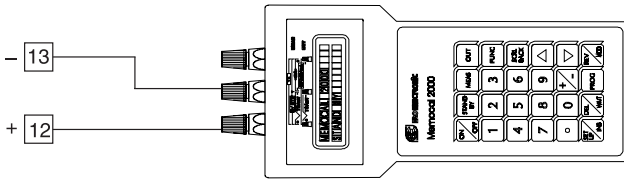

Fig.6
- Connect the instrument under test to the calibrator as shown in Fig. 6.
- Set the calibrator to 1300 mV (see Fig. 6).